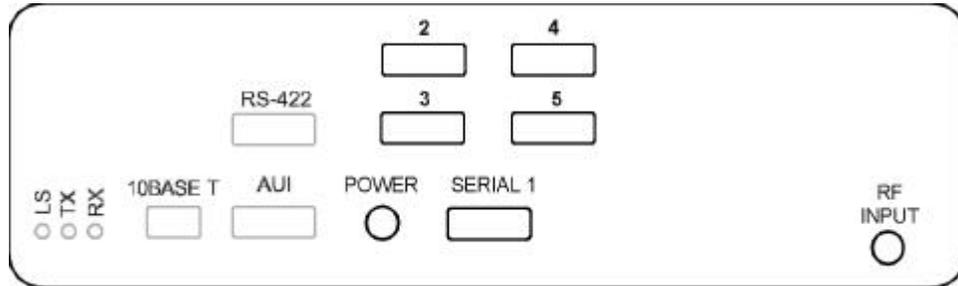

Figure 2-1. Rear Panel Connectors, 4-Port Daughtercard
2. Connect data cables between the serial or Ethernet outputs on the IDR V1000 and the external devices. See Figures 2-1 and 2-2.